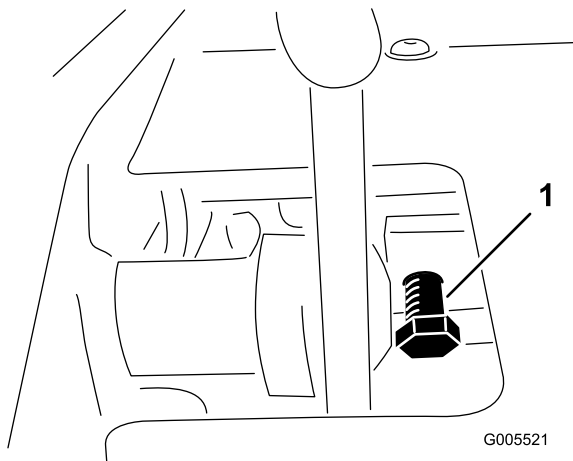

Figure 56
1. Loosen jam nut on pedal lock capscrew (Figure 56).